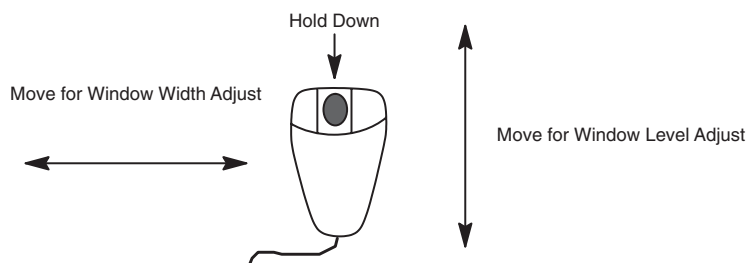

Figure 2-6 Window Width/Level Adjust with Mouse
- 3.) Refer to Figure 2-6, to adjust the image window: